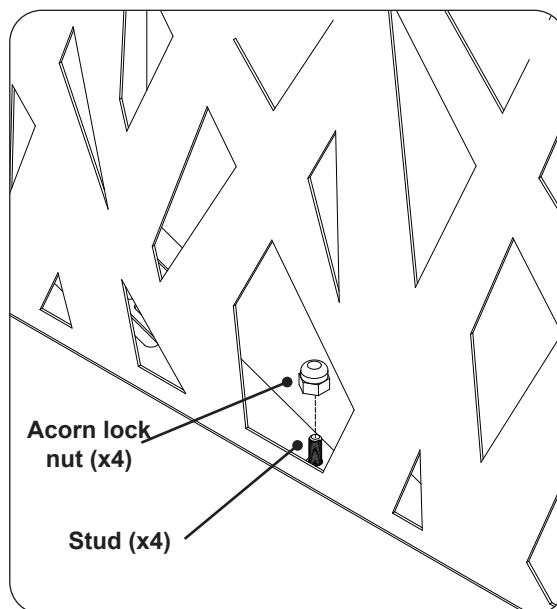

Fig. 25-2 Fasten top assembly to base
2. Using a $\frac{3}{8}$ " socket driver and the four acorn lock nuts provided, fasten the top assembly to the lantern base as shown in Fig. 25-2.